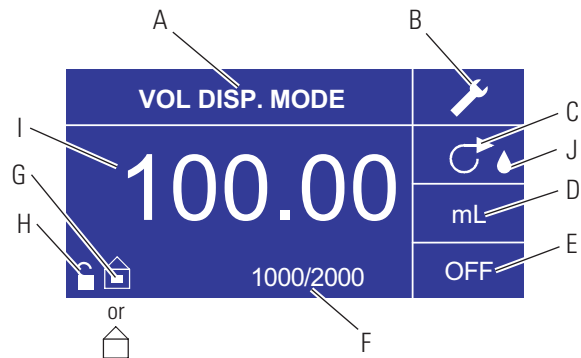

Figure 3-10. Volume Dispense Mode Screen
6. **Setting Pump OFF Time:** Use the directional pad and ENTER key to select OFF on the display (see position E, Figure 3-10) to enter the OFF TIME. Use the directional pad and ENTER key to set the pump rest time. The timer in the center of the screen will be highlighted, and using the UP/DOWN arrows will increase/decrease the farthest right digit of the time interval. If ENTER is pressed a second time while the timer is highlighted, the digits can be navigated individually using the UP/DOWN arrows; switch between digits using the LEFT/RIGHT arrows. After selecting an optimal OFF time, press ENTER again to validate. The drive will now rest for the time appearing in the center of the screen. **NOTE:** If the OFF Time is set to 00:00:00, the drive requires a START/STOP input from the keypad or the remote I/O Connector to start the next dispense.
7. **Setting Batch Size:** Use the directional pad and ENTER key to select the Batch Count icon from the operation screen (see position F, Figure 3-10). From Batch Count screen use the UP/DOWN arrows to select batch size. Press ENTER to validate batch size. When set to zero (0) the drive will run for an infinite number of cycles and the ∞ symbol is displayed. Select EXIT to return to drive operation screen.
9. **Reset Batch Count:** Use the directional pad and the ENTER key to select the BATCH COUNT icon (see position F, Figure 3-10). In the BATCH COUNT screen, select RESET and press the ENTER key to reset the batch count. Select EXIT to return to the COPY MODE OPERATION screen.